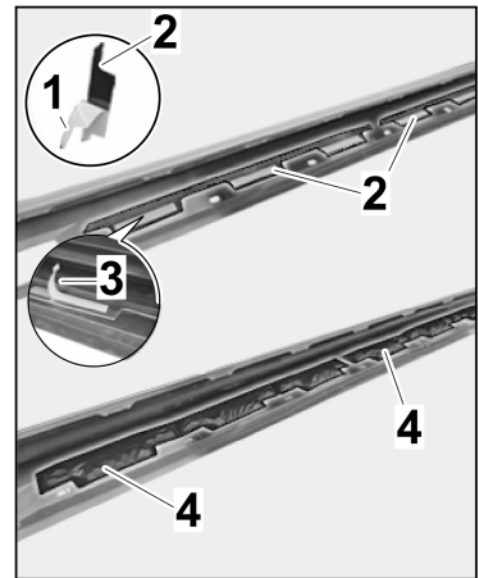

Figure 44
- Pull protective film off the back of the acoustic film (⇒ *Figure 44 -inset, top-*).
- Affix acoustic film on Sport-Design sill cover (⇒ *Figure 44 -top-*).
- Pull protective film off the front of the acoustic film (⇒ *Figure 44 -inset, bottom-*).
- Stick absorber on the acoustic film (⇒ *Figure 44 -bottom-*).